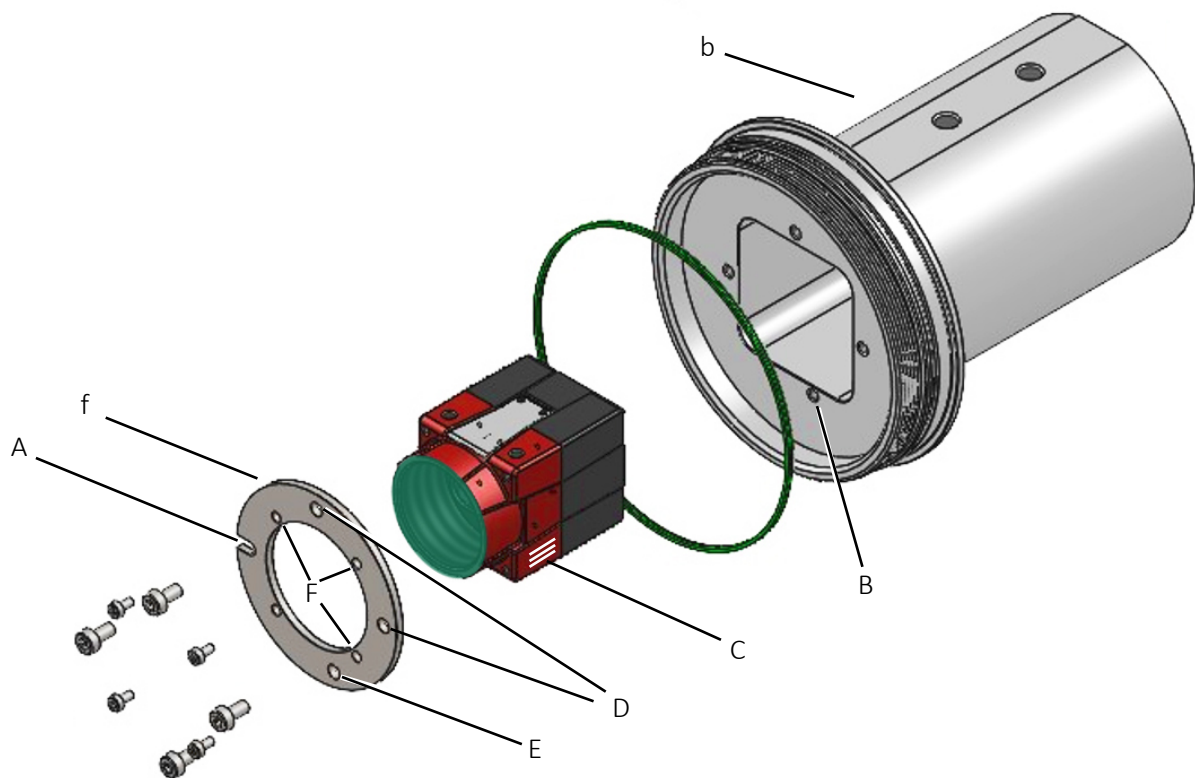

Figure 5: Camera Mounting Ring (f) oriented for an upright camera image
As a reference for the following instructions, Figure 5 shows **top and bottom mounting** of the Camera Tube (b) to acquire an upright camera image. For lateral mounting of the Camera Tube (b), rotate all components accordingly.
The Camera Mounting Ring (f) has an asymmetric design. Figure 5 shows that three M3 mounting holes (D, E) are completed by one oval groove (A) for M3 screws. Moreover, the M3 mounting holes (D) are center aligned to the M2 mounting holes (F), while the M3 mounting hole (E) is located off the center to match M3 mounting thread (B) of the Camera Tube (b).
In Figure 5, the camera outputs an upright image if it is mounted with the Allied Vision engraving on the right side (C).